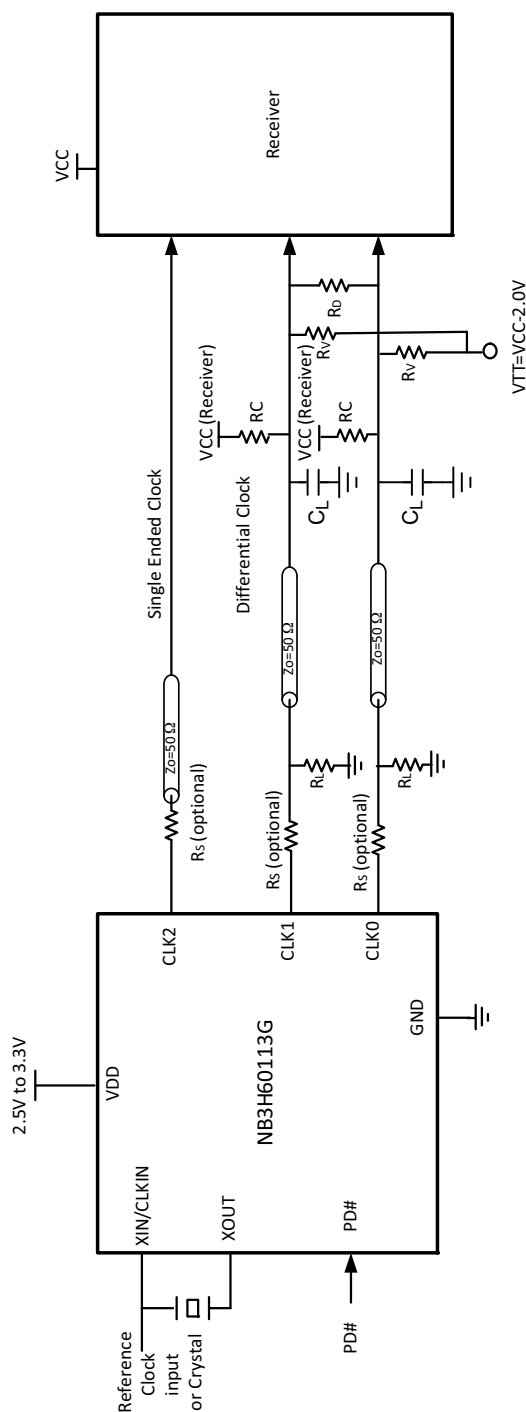

Figure 6. Typical Termination for Single-Ended and Differential Signaling Device Load
19. Measurement taken from single ended clock terminated with test load capacitance of 5 pF and 15 pF and differential clock terminated with test load of 2 pF. See Figures 6, 7 and 12.